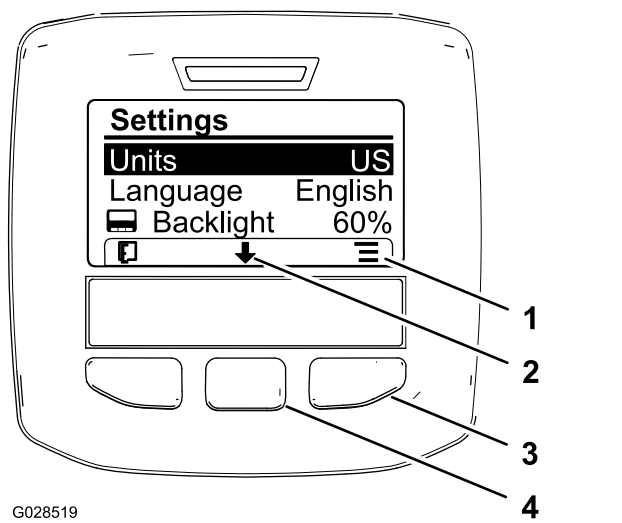

Figure 63
2. To change the unit of measure, press the right selection button to change the listed units of measure (Figure 63).
3. To change the language used in the display, press the center selection button (the button below the down arrow in the display) to move the selected option to Language (Figure 63).
4. Press the right selection button (the button below the list icon in the display) to highlight the listed language used in the display (Figure 63).
6. Press the left selection button to return to the Home screen (Figure 63).